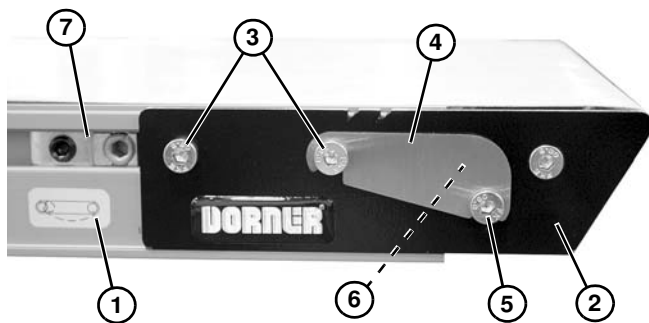

Figure 57
1. On tension end of the conveyor, identified with a  label (**Figure 57, item 1**), adjust headplate assembly (**Figure 57, item 2**):
- a. On both sides of conveyor, loosen fastening screws (**Figure 57, item 3**).
- b. If equipped with dust covers (**Figure 57, item 4**), loosen screw (**Figure 57, item 5**) and remove dust cover on both sides of conveyor. Tighten screw (**Figure 57, item 5**).
- c. Rotate pinion gear (**Figure 57, item 6**) to adjust headplate assembly.
3. After adjusting proper tensioning, tighten fastening screws (**Figure 57, item 3**) on both sides of conveyor to 7 Nm.
4. If equipped, install dust covers (**Figure 57, item 4**).
5. If equipped with cam tracking assemblies (**Figure 57, item 7**) position against headplates and adjust belt tracking. Refer to “Conveyor Belt Tracking”, next section.